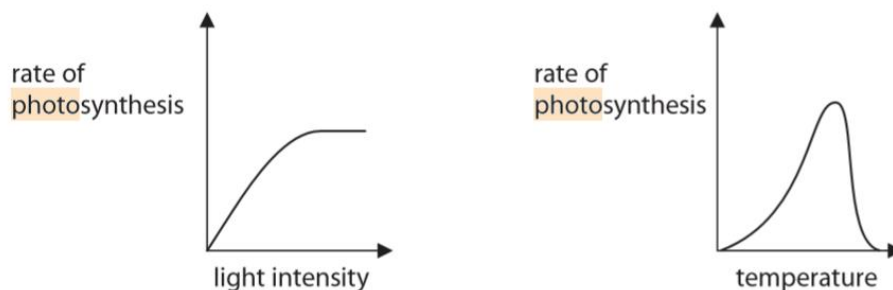

Figure 16
- 8 (a) Figure 16 shows the effect of light intensity and temperature on the rate of photosynthesis.